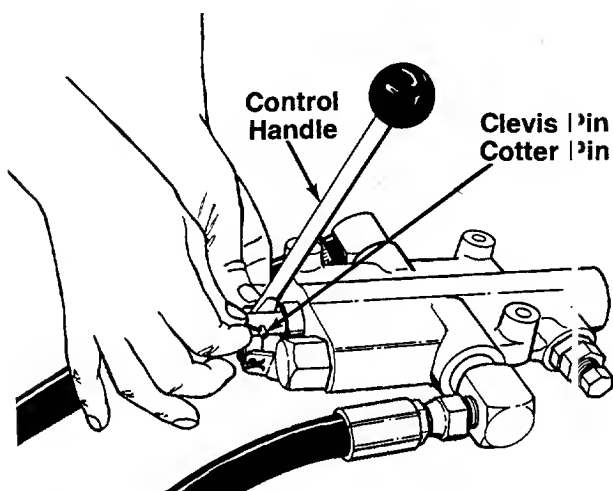

FIGURE 7.
2. Place the handle in position, and secure using the clevis pin and cotter pin. Secure by bending the ends of the cotter pin in opposite directions. See figure 7.